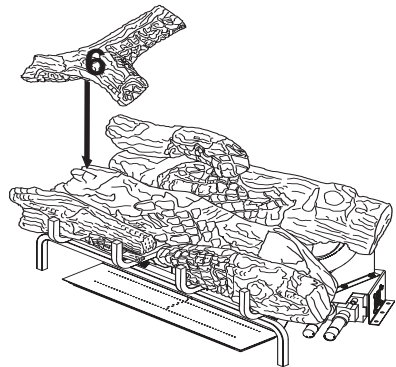

Figure 36- Installing Log # 6
6. Place the left top front log (#6) on the top of the middle log and the left top back log. Match the rectangular projection on top of the middle log with the rectangular hole on the bottom of the left top front log. The left top front log will rest on the flat part of the left top back log. See Figure 36.